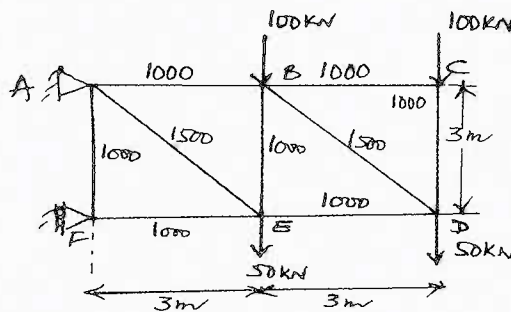

Fig.Q3
- 3 For the frame loaded as shown in Fig.Q3, calculate the vertical deflection at joint D. Take $E = 200 \text{ kN/mm}^2$. Areas of each member in mm^2 is shown along the side of the member. Adopt unit load method. (20 Marks)